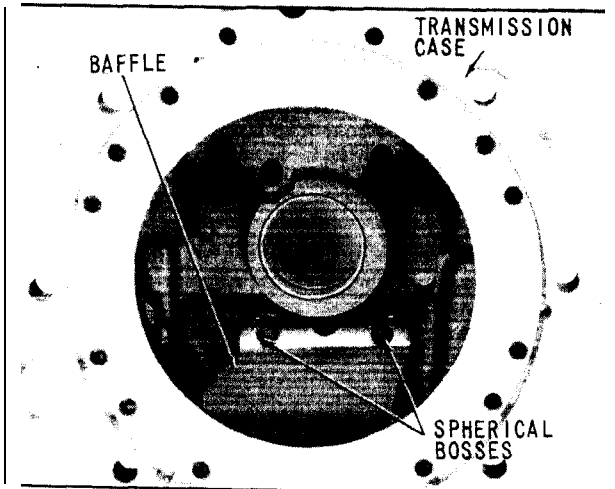

Fig. 107 Installing Baffle
- Place the baffle inside the transmission case with the curved portion below the cast spherical bosses in the case as shown in (Fig. 107). Also refer to (Fig. 6) and (Fig. 7).
Snap the baffle into position by lifting up on the curved portion so that the two large holes are located firmly on the spherical bosses at the rear of the transmission case as shown in (Fig. 107).